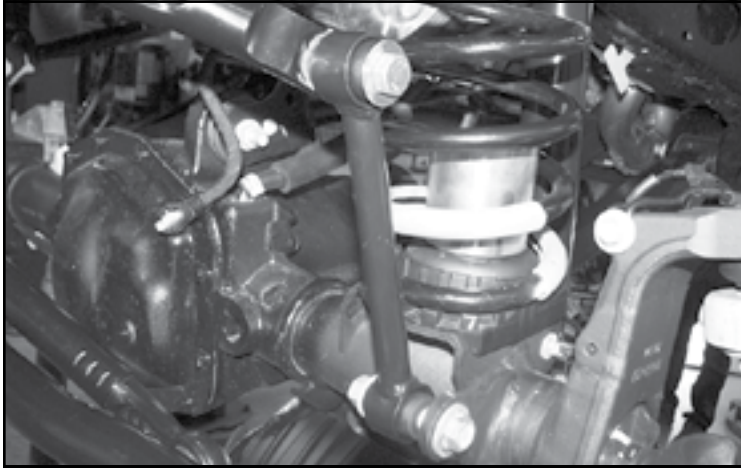

FIGURE 24 - STEP 23
23. Install FT50048 (Bushings) and FT404739 (Sleeves) into FT50026BK (Sway bar links). Then, install the links to the axle mount and sway bar using the supplied M12 x 70mm or m14 hardware (2024 Models) for the upper location and the factory for the lower. Torque to 65 ft-lbs. **SEE FIGURE 24**